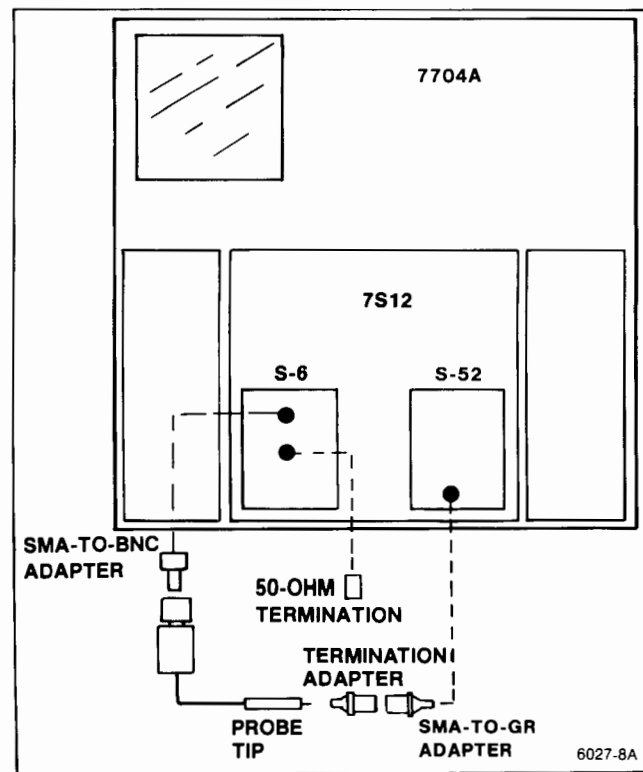

Figure 3-2. High-frequency check setup.
a. Connect the test setup as shown in Figure 3-2.